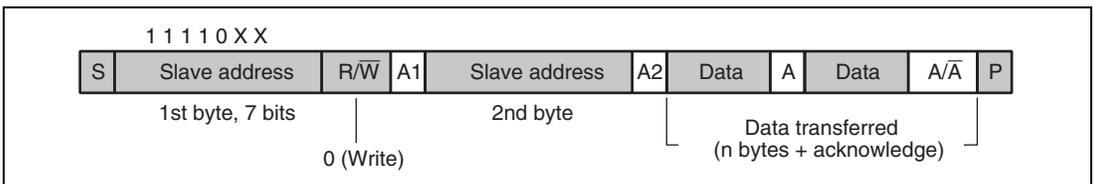

Figure 29.6 10-Bit Address Data Transmit Format
Figure 29.6 shows the data transmit format. The set value in the master address register is output in one byte following the first START condition (S). The value set in the transmit data register (TXD) is transmitted as a slave address in the second byte. Data on and after the third byte is transferred in the same way as the 7-bit address data.